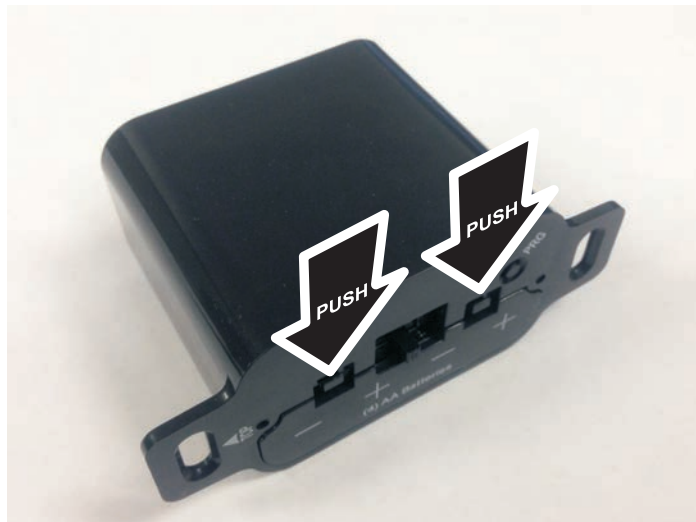
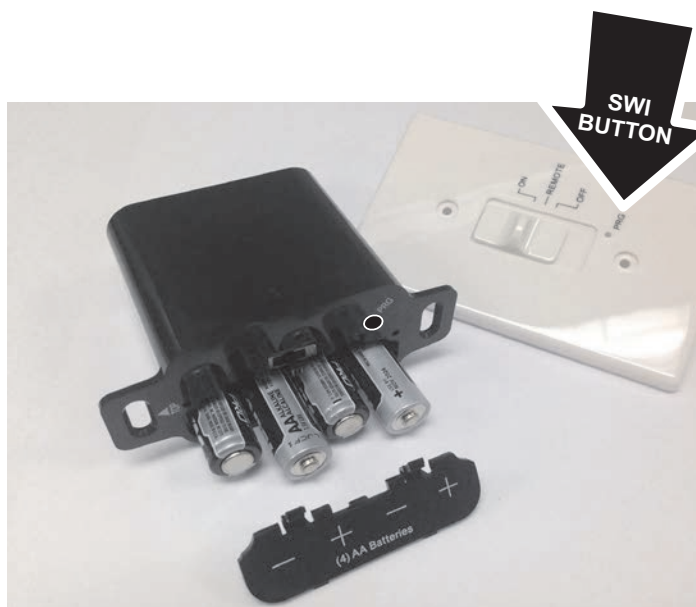

Figure 71
Figure 72
1. Remove the wall cover. Remove cover on the wall mounted battery back-up holder. **See Figure 71.** Install the four AA batteries into the wall mounted battery back-up holder then reinstall the cover. **See Figure 72.**
3. Set the wall remote slide switch to the "REMOTE" position. **See Figure 72.**
4. Press and release the SWI button on the wall control with a paper clip and the IFC module will beep three times to indicate the IFC module is ready to synchronize with the transmitter within ten seconds. **See Figure 72.**